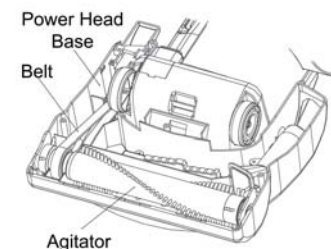

Fig. 18
9. Loop the new belt first over the drive shaft and then over the belt pulley on the agitator. (Fig. 18)